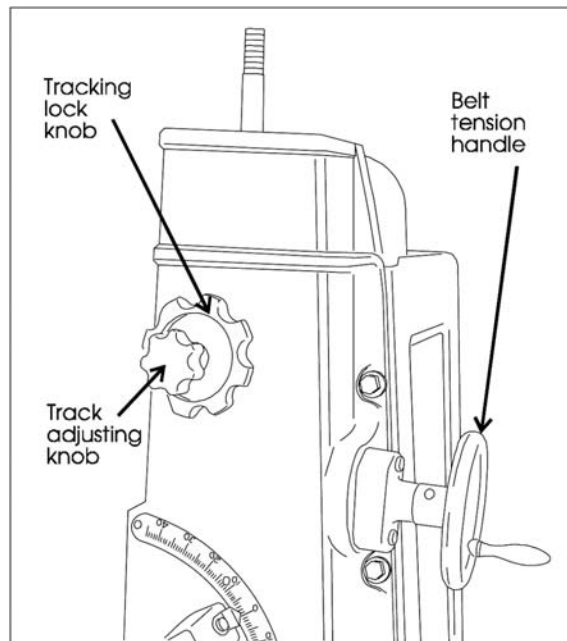

Figure 7: Belt adjustment components (Note top cover removed for removal and replacement of belt.)
4. Release the belt tension by turning the tension handle in a counterclockwise direction (See Figure 7). If the handle is difficult to turn, perform *Track mechanism maintenance* according to the instructions in section 7.2.